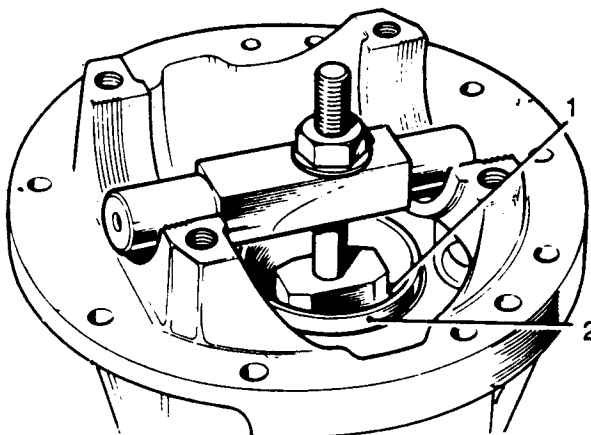

Fig J2.46
- (13) Refer to Fig J2.46. Locate the tool 262757 (1) in the pinion housing. Ensure that the projections on the extractor bar fit the cast slots at the rear of the bearing outer race. If necessary, grind the projections until a sliding fit is obtained, otherwise the pinion housing may be damaged.
- (14) Extract pinion head bearing outer race (2) together with its shim.
(15) Press out flange end outer race.
- (2) Press in the pinion head bearing outer race (2). Special tool 262758 used with 262757 ((1) on Fig J2.46).
- (3) Press in the flange end bearing outer race.